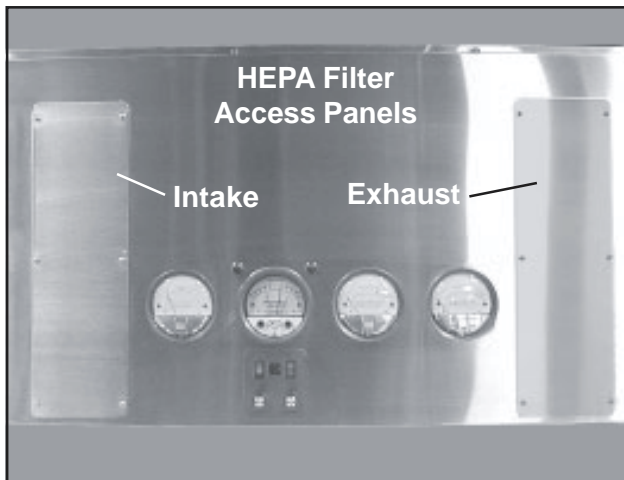

Figure 97. HEPA Filter Access Panels
1. With a Phillips screwdriver, remove the six screws on the appropriate access panel next to the gauges (Figure 97) and remove the panel.
5. Replace the access panel and secure with the six screws (Figure 97).
4. With a Phillips screwdriver, remove the six screws on the appropriate access panel next to the gauges (Figure 97) and remove the panel.